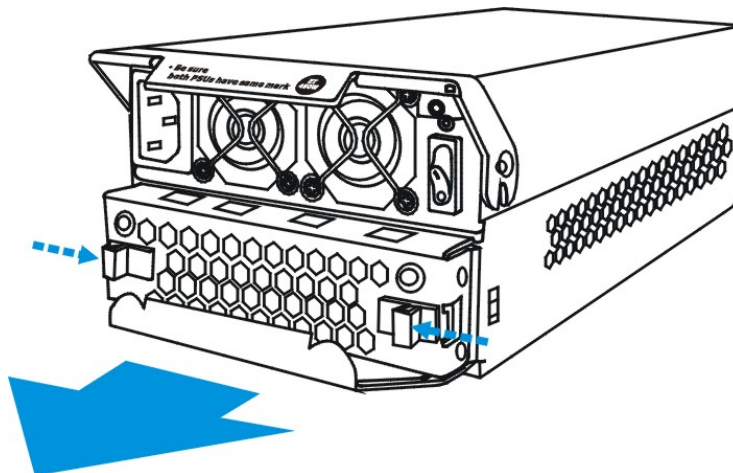

Fig. 2.4 Removing the Cooling Module
5. Remove the cooling module by pushing the clips on either side of the cooling module rear panel together. Then gently pull the cooling module out of the lower level of the PSU bracket. (See Figure 2.4)